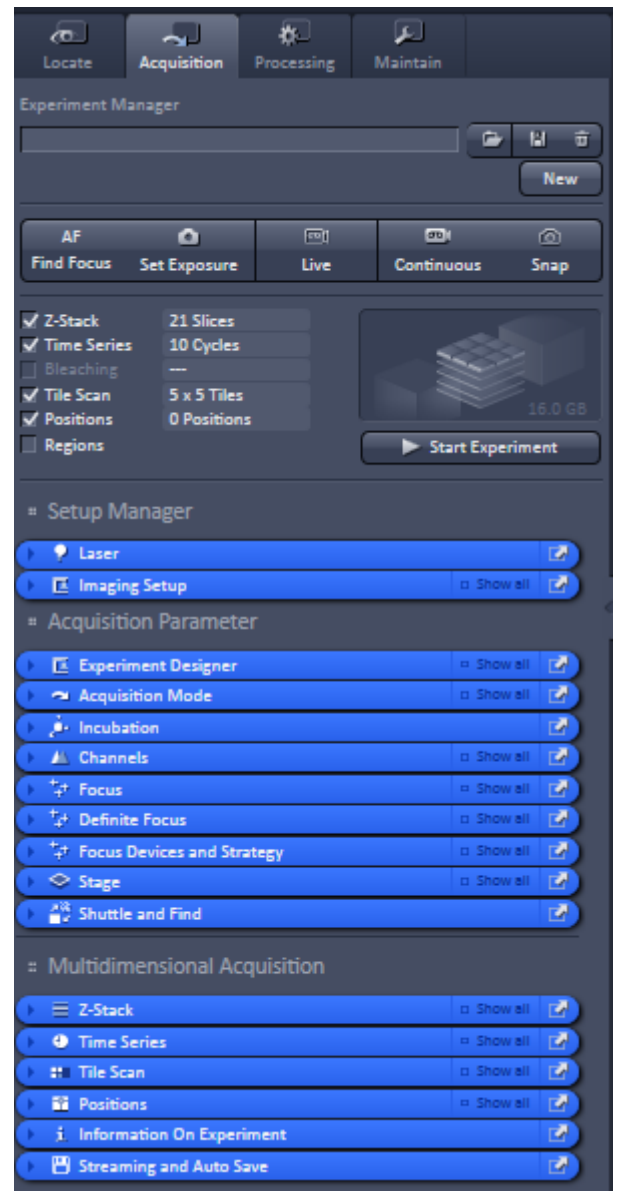

Fig. 62 Appearance of Acquisition Tab tools for ELYRA
- For excitation all imaging modes use lasers with the exception of **WF** that employs the epi illumination light source. If **Acquisition** is selected, the **Acquisition** tab tool becomes available (Fig. 62).